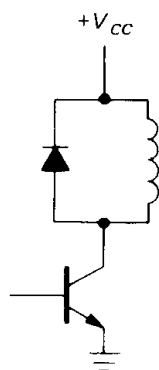

Figure 2.4. Always use a suppression diode when switching an inductive load.
3. For inductive loads, protect the transistor with a diode across the load, as shown in Figure 2.4. Without the diode the inductor will swing the collector to a large positive voltage when the switch is opened, most likely exceeding the collector-emitter breakdown voltage, as the inductor tries to maintain its "on" current from V_{CC} to the collector (see the discussion of inductors in Section 1.31).